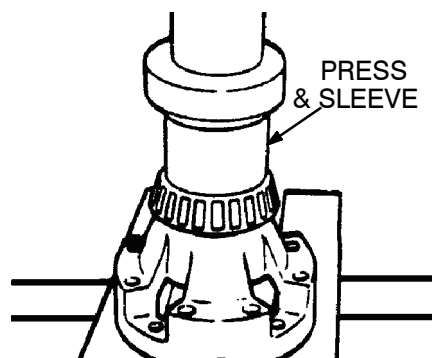

Figure 60.
- (2) Assemble all bolts through gear side and secure with washers and locknuts on case side. Torque to 196–262 ft. lbs. (265–355 Nm.)
- (3) If new bearings are to be used, press squarely and firmly on differential case halves with suitable sleeve. Refer to Figure 60.